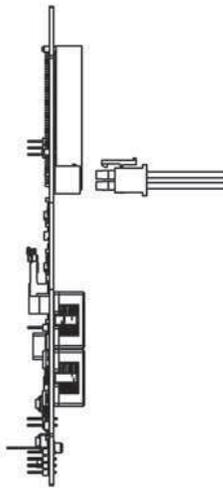

Figure 2 – Power Connection
4. Disconnect the power cable assy from the main PCB assy (**Figure 2**).
3. Reconnect the power cable assy to the main PCB assy (**Figure 2**).